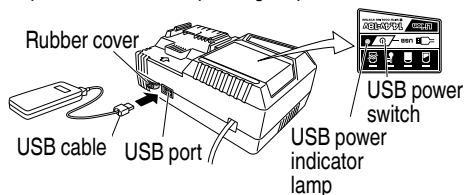

Fig. 8
- Turn the USB power switch ON (Fig. 8)
- (3) Connect the USB cable. (Fig. 8)
- (4) When charging is completed
- Turn the USB power switch OFF and unplug the power cord from the electrical outlet. (Fig. 8)
- Make sure that the push button is disengaged by pushing push button two or three times before turning on the grinder. (Fig. 8)